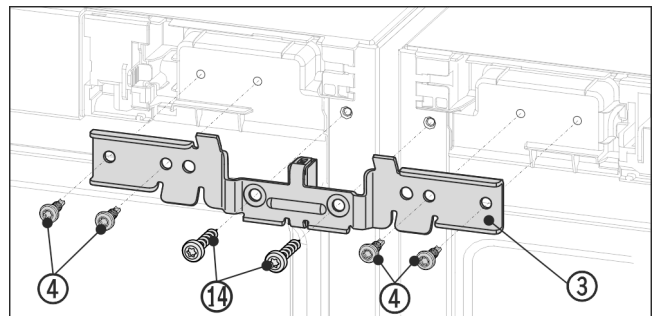

Fig. 16 Example illustration
- ▶ Slide the bracket Fig. 16 (3) onto the pins with the spacer between the appliances. Loosely screw in the brackets alternately right and left with four screws Fig. 16 (4) and the previously removed earthing screws Fig. 16 (14).